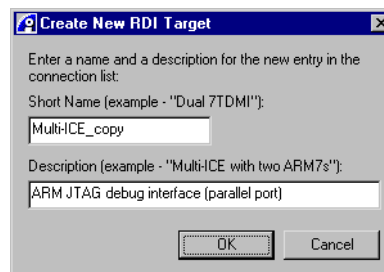

Figure 3-17 Creating a new RDI Target connection
5. Click **Duplicate** to display the Create New RDI Target dialog (Figure 3-17).